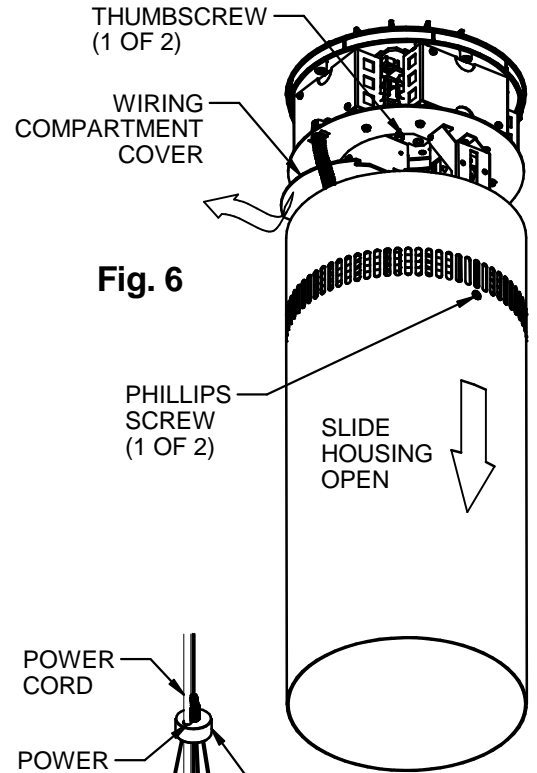

Fig. 6
8. Carefully open the cylinder housing by loosening (do not remove) the two Phillips screws on opposite sides of the cylinder (near the vent slots) until the screws disengage from the internal locking slots, and the cylinder housing is free to slide down. Slide the outer cylinder housing open towards the reflector (it should move about 7 inches from the top finned casting) and tighten the two Phillips screws (Fig. 6).